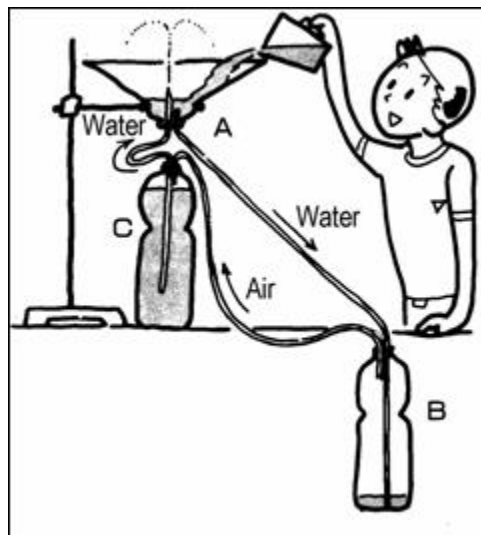

Fig. 1 MATERIALS and TOOLS
The following information has been archived from this site. Most of fountains that you can see in parks are driven by an electric water pump. But Heron, an engineer in ancient Greek, invented a very curious fountain. It continues to spout water without any pump and energy source. Let's make Heron's fountain as shown in Fig.1, using daily used materials, such as plastic bottles and plastic tubes.
Attach the rubber stoppers to each mouth of 3 bottles. Cut the plastic tube into 5 pieces and connect the 3 rubberstoppers with them as shown in Fig.5. Fill bottle C with water and put a little water in bottle B. Attach the funnel to the tripod stand and set bottle B,C as shown in Fig.1. If you pour water into the funnel, water begins to spout out from the nozzle continuously.
**THINGS TO DO**-Set up the equipments as shown in Fig.1 and make sure that the water in bottle C spouts out from the nozzle. Find how to achieve the maximum height which the water can reach.